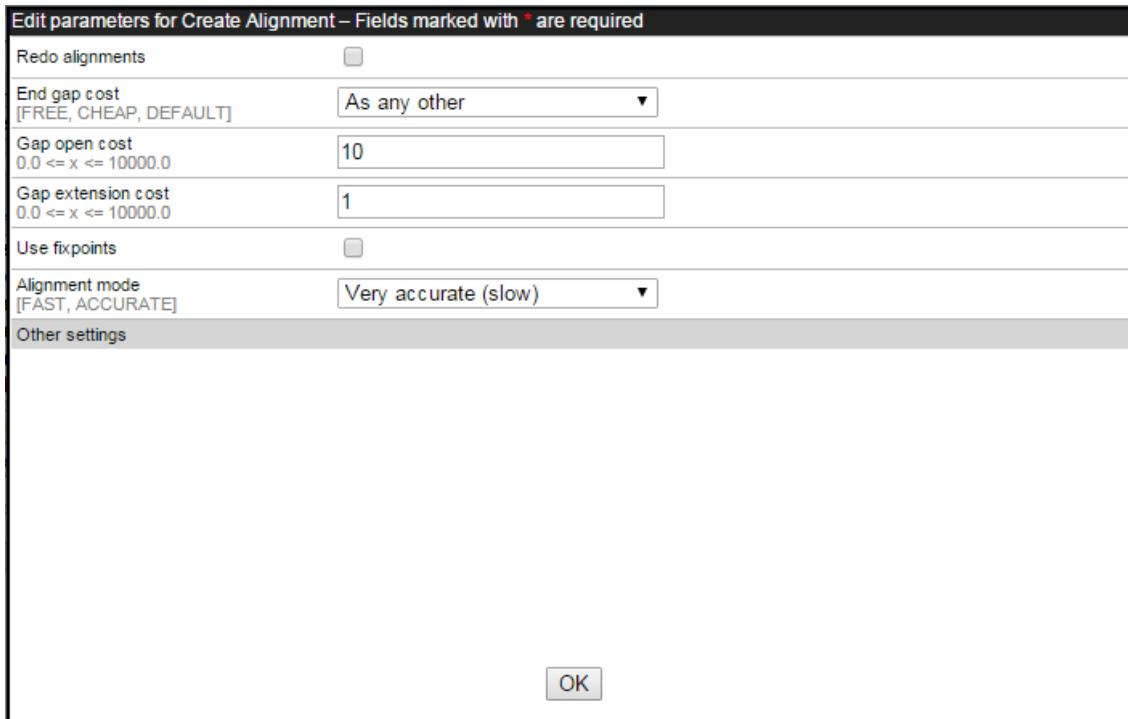

Figure 8.6: Configuring default values for post processing parameters.
- Configuring a default value for the parameter, which is done by clicking the button "Edit default parameters for X", where X is the name of the selected post processing tool. This will open a window where defaults for parameters of the post processing tool can be configured. In our running example, this can be seen in Fig. 8.6.